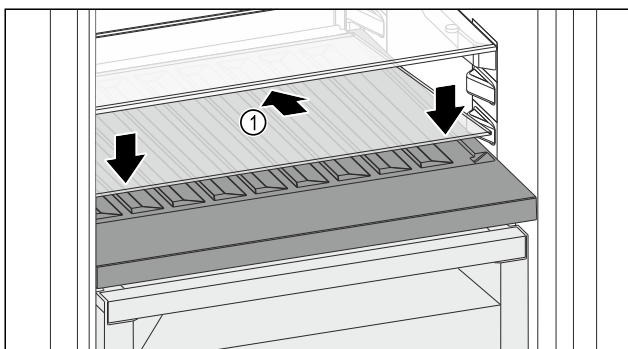

Fig. 109
- ▶ Place the glass shelf Fig. 109 (1) at an angle, sloping it downwards and backwards.
- ▶ Lower the glass shelf Fig. 109 (1) at the front.